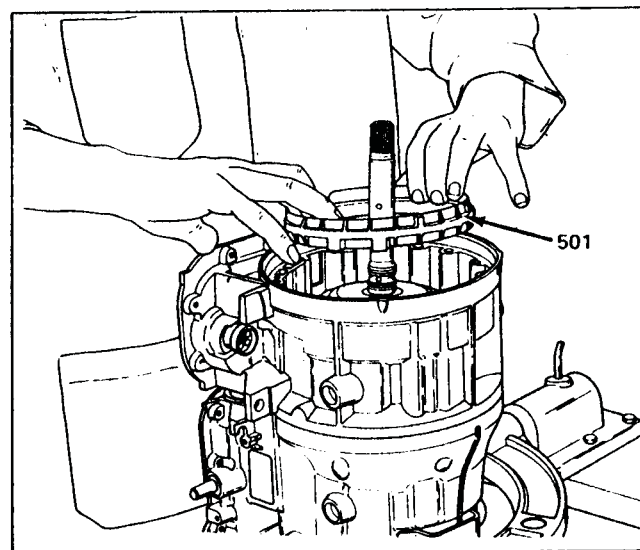

Figure 39
6. Lifting from the inside as shown in Figure 39, remove the fourth clutch retainer.